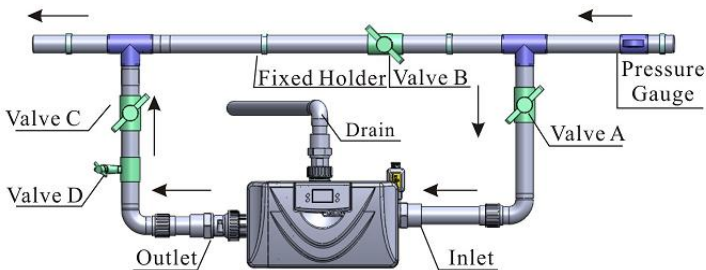

Figure 1-3
③ Pipeline connection
- As Figure1-3 shows, install a pressure gauge in water inlet.
- Install valves A.B.C.D in inlet, outlet and pipeline as showed in Figure 1-3. Valve D is a sampling valve.